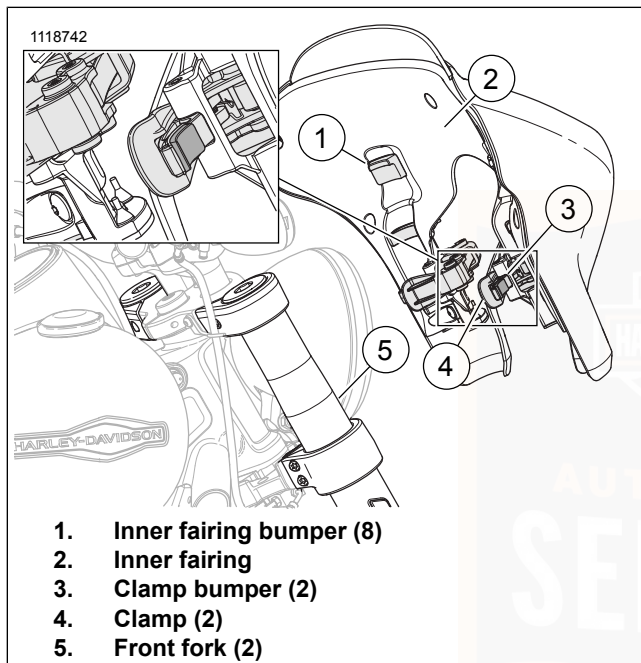

Figure 45. Fairing Clamps
1. See Figure 45. Inspect fairing.
- a. Verify inner fairing bumpers (1) and clamp bumpers (3) are in place, clean, and in good condition.